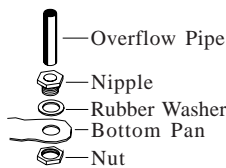

Fig. 2
• **Install overflow assembly.** Remove nut and place nipple through the hole in the pan, with the rubber washer between the pan and the head of the drain nipple (Fig. 2). Screw on nut and draw up tight against bottom of pan. Insert overflow pipe in nipple to retain water. Overflow pipe may be removed to drain pan when necessary. A garden hose may be screwed on the drain nipple to drain water away from your unit.